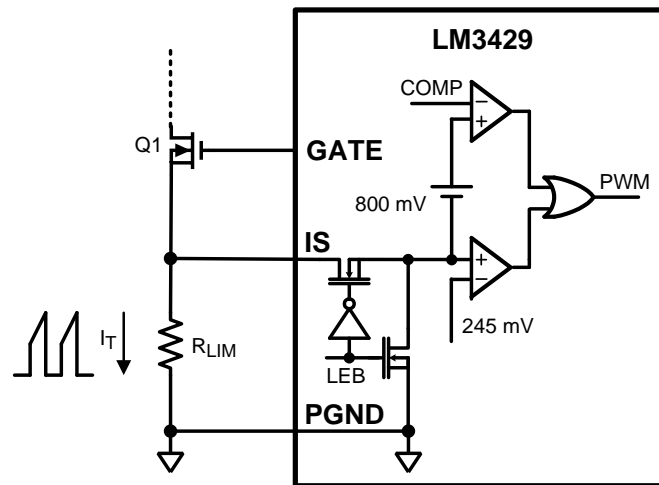

Figure 17. Current Sense / Current Limit Circuitry
The LM3429 achieves peak current mode control using a comparator that monitors the MosFET transistor current, comparing it with the COMP pin voltage as shown in Figure 17. Further, it incorporates a cycle-by-cycle overcurrent protection function. Current limit is accomplished by a redundant internal current sense comparator. If the voltage at the current sense comparator input (IS) exceeds 245 mV (typical), the on cycle is immediately terminated. The IS input pin has an internal N-channel MosFET which pulls it down at the conclusion of every cycle. The discharge device remains on an additional 250 ns (typical) after the beginning of a new cycle to blank the leading edge spike on the current sense signal. The leading edge blanking (LEB) determines the minimum achievable on-time ($t_{\text{ON-MIN}}$).